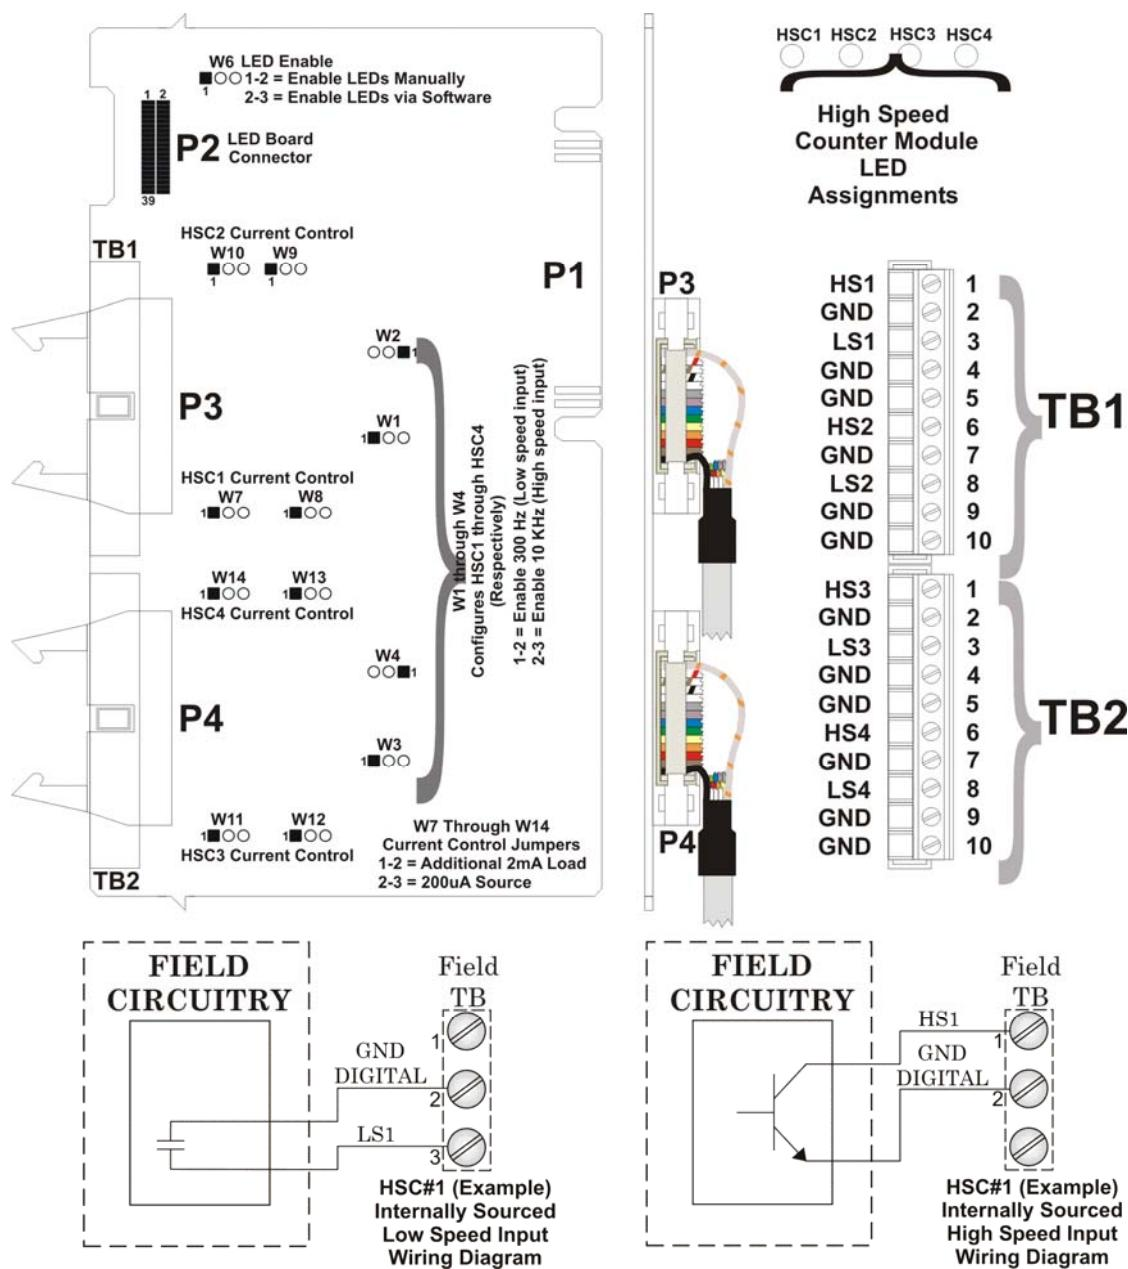
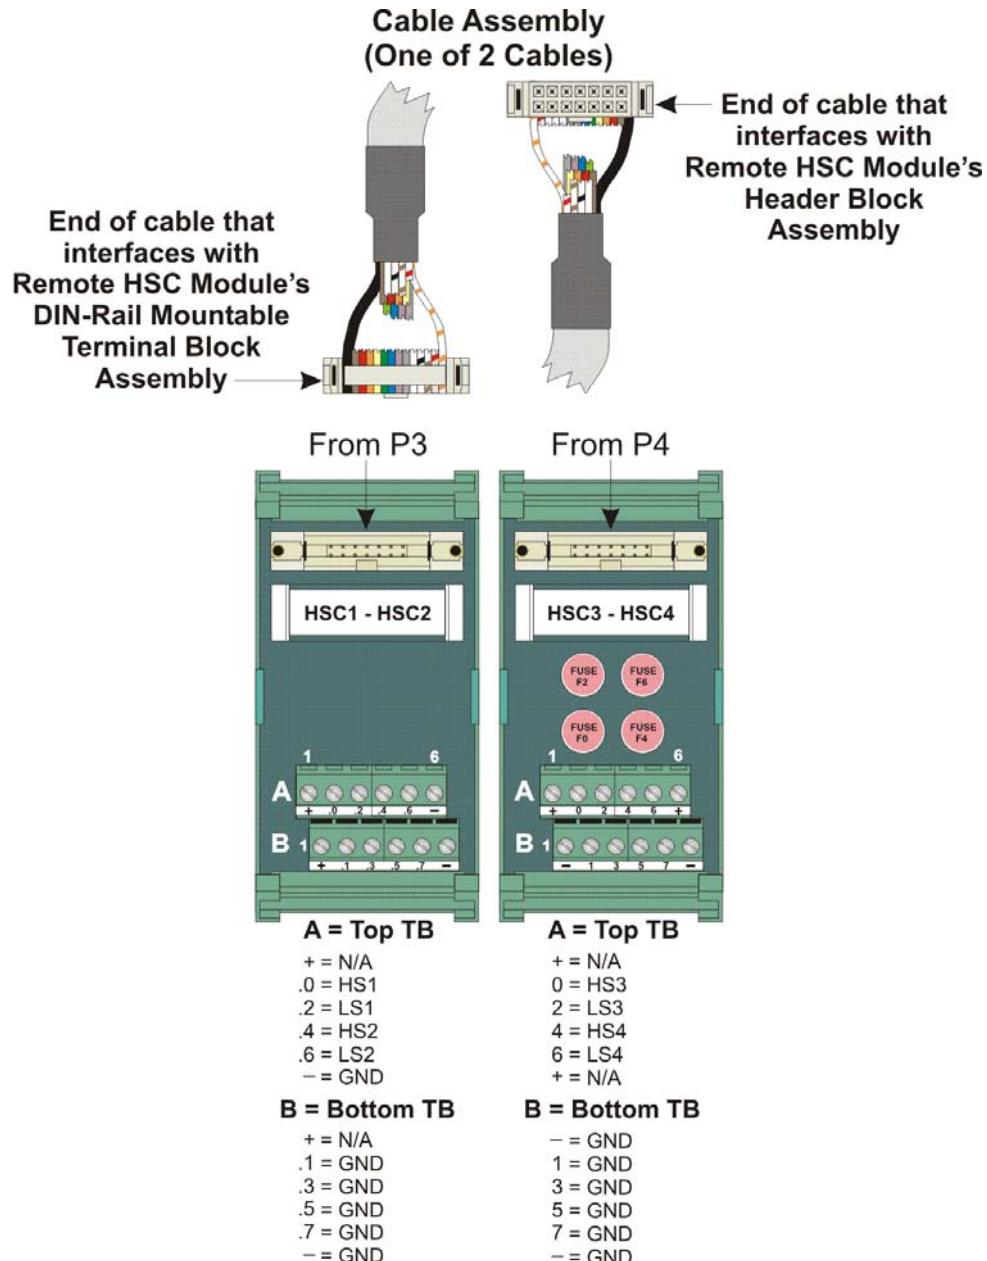

Figure 3-13. Non-isolated HSC Module (Local Termination)
Figure 3-14. Non-isolated HSC Module (Remote Termination)
**Wiring the Module** *Figure 3-13* shows field wiring assignments for the locally terminated HSC module; *Figure 3-14* shows field wiring assignments for the remotely terminated HSC module.